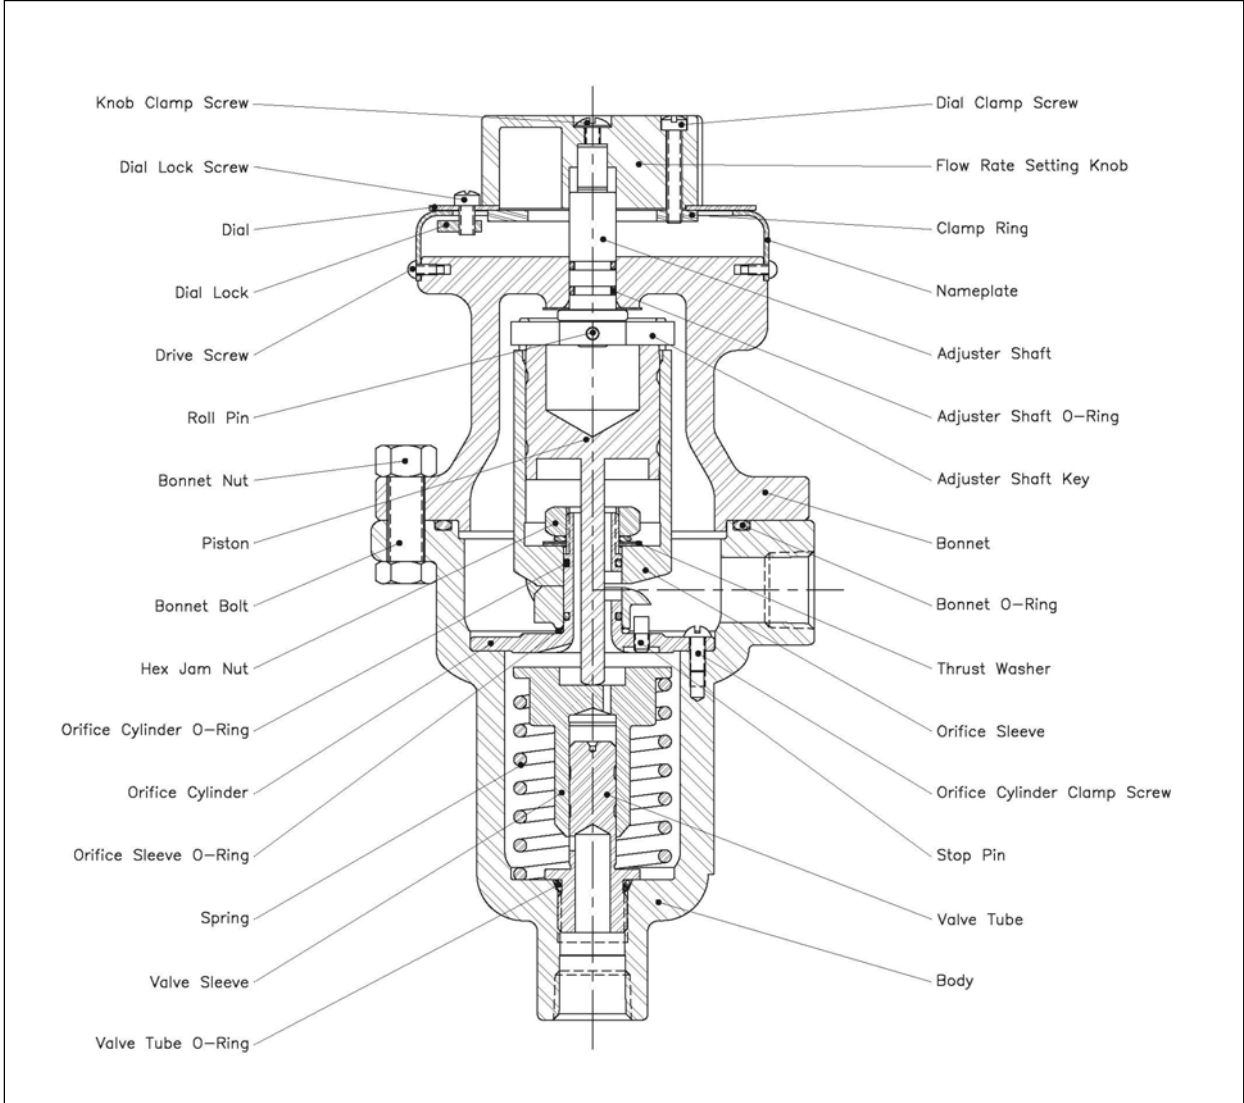

Figure 1
- d. Lower the bonnet slowly, at the same time turning the flow rate setting knob until the key on the end of the adjuster shaft fits into the slots in the orifice sleeve, and the shoulder on the lower face of the bonnet fits into the body. (Note: If the flow rate setting knob does not turn, loosen the dial lock screw. See figure 1) When properly assembled, the bonnet will seat squarely on the body all the way around. (See figure 1)
16. Replace the body O-ring then lower the bonnet slowly, at the same time turning the flow rate setting knob until the key on the end of the adjuster shaft fits into the slots in the orifice sleeve, and the shoulder on the lower face of the bonnet fits into the body. When properly assembled, the bonnet will seat squarely on the body all the way around. (See figure 1) See that the pointer is in front where the set point can be read. Replace and tighten the bonnet bolts. (See figure 4)